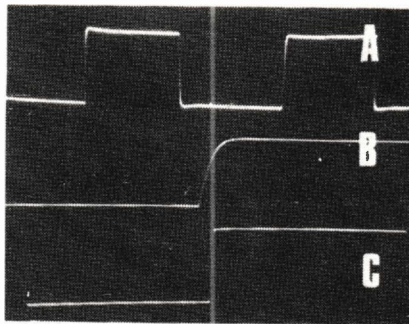

Fig. 11. (A) Appears to be a good square-wave with a fast leading edge. (B) reveals it is not so fast (several μsec) whereas (C) has a rise time of 1 μsec .
audio engineers as a ready means of estimating, among other things, the frequency response performance of amplifiers including tone controls, filters etc. A uniform square-wave with a rise-time over 10% to 90% of the leading edge of about $1\mu\text{s}$ is essential. This can be checked by using the 'scope calibration as already outlined. Don't accept what appears to be a nice looking square-wave as in Fig. 11 (A) because the leading edge *looks* fast. Opened out, it appears as in Fig. 11 (B) and the rise-time is several micro-seconds, whereas (C) has a rise-time of better than $1\mu\text{s}$. We cannot delve too far into the interpretation of square-wave displays as this could warrant a whole article in itself but instead give some general examples, with the aid of oscillograms, of how amplifier performance can be estimated just by looking at the display. These are shown in Figs. 12, 13 and 14. Further information on the subject will be found in the references given at the end of this article.